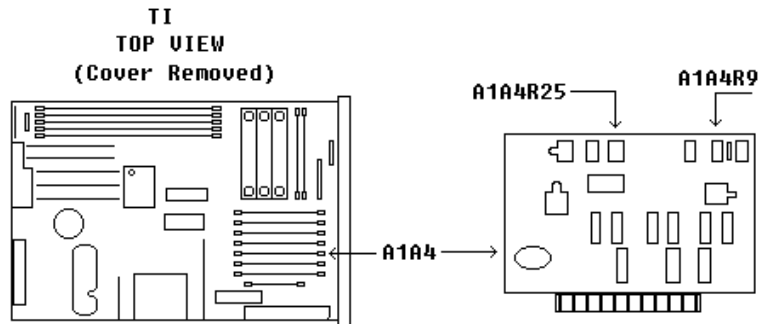

Figure 11. A1A4 adjustment locations.
- (7) Adjust A1A4R25 (fig. 11) for best pulse shape (R).
- (8) Adjust A1A4R9 (fig. 11) cw until **ALC UNLEVEL** light is on, then adjust A1A4R9 ccw until **ALC UNLEVEL** light is extinguished (R).
- (9) Reduce all outputs to minimum.
- (10) Replace TI top cover.